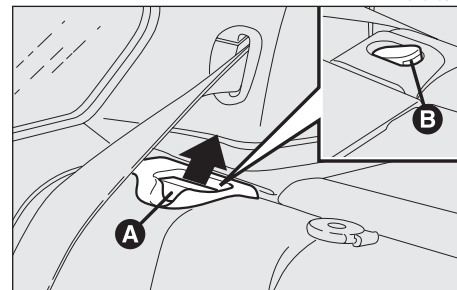

fig. 36a
When the seat back is coupled properly, the "red band" (B) next to the seat back levers (A) disappears. The "red band" actually indicates improper seat back coupling (fig. 36a). When resetting it in proper position, make sure to hear the locking click.